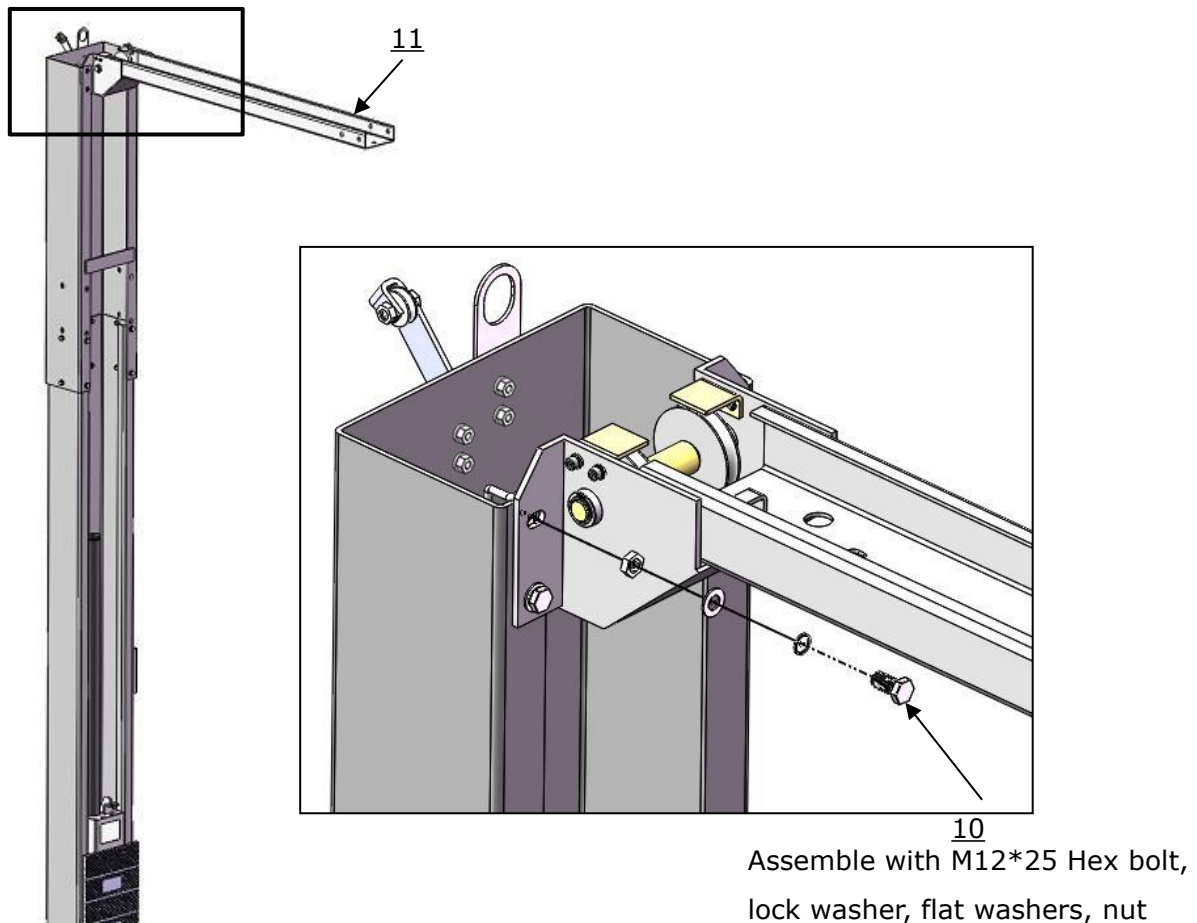

Fig. 20
1. Hang the hook of top beam A on the outer column, then align the holes and install the bolts. **(See Fig. 20).**